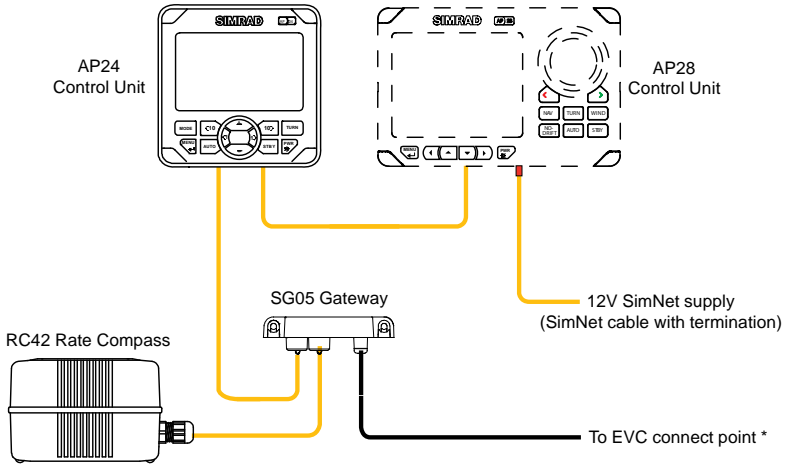
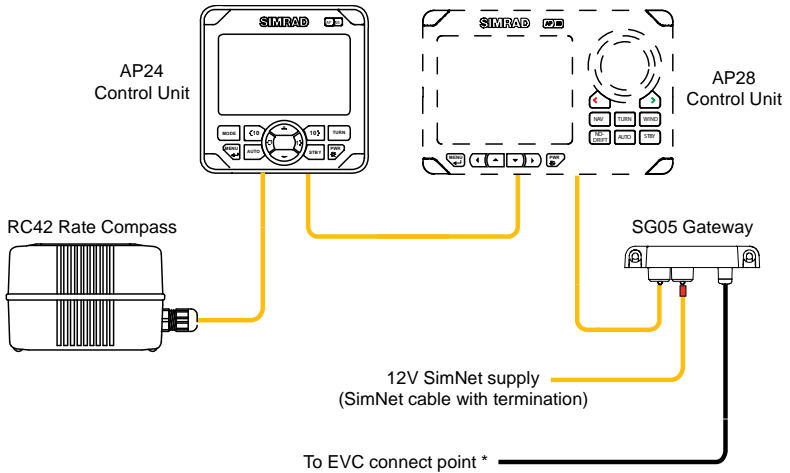

Figure 2-1
Figure 2-2
It is important to become familiar with the configuration of the system prior to beginning the installation. An autopilot basic single station system with optional station is shown in Figure 2-1
- Connect other units according to Figure 2-1. Use only readymade SimNet cables and accessories. For SimNet network termination refer to section 2.9 on page 15.
- 3 SimNet must be properly terminated, i.e. unless it is a small system (see Figure 2-1 and Figure 2-2) there must be terminations at each end of the Simrad backbone.